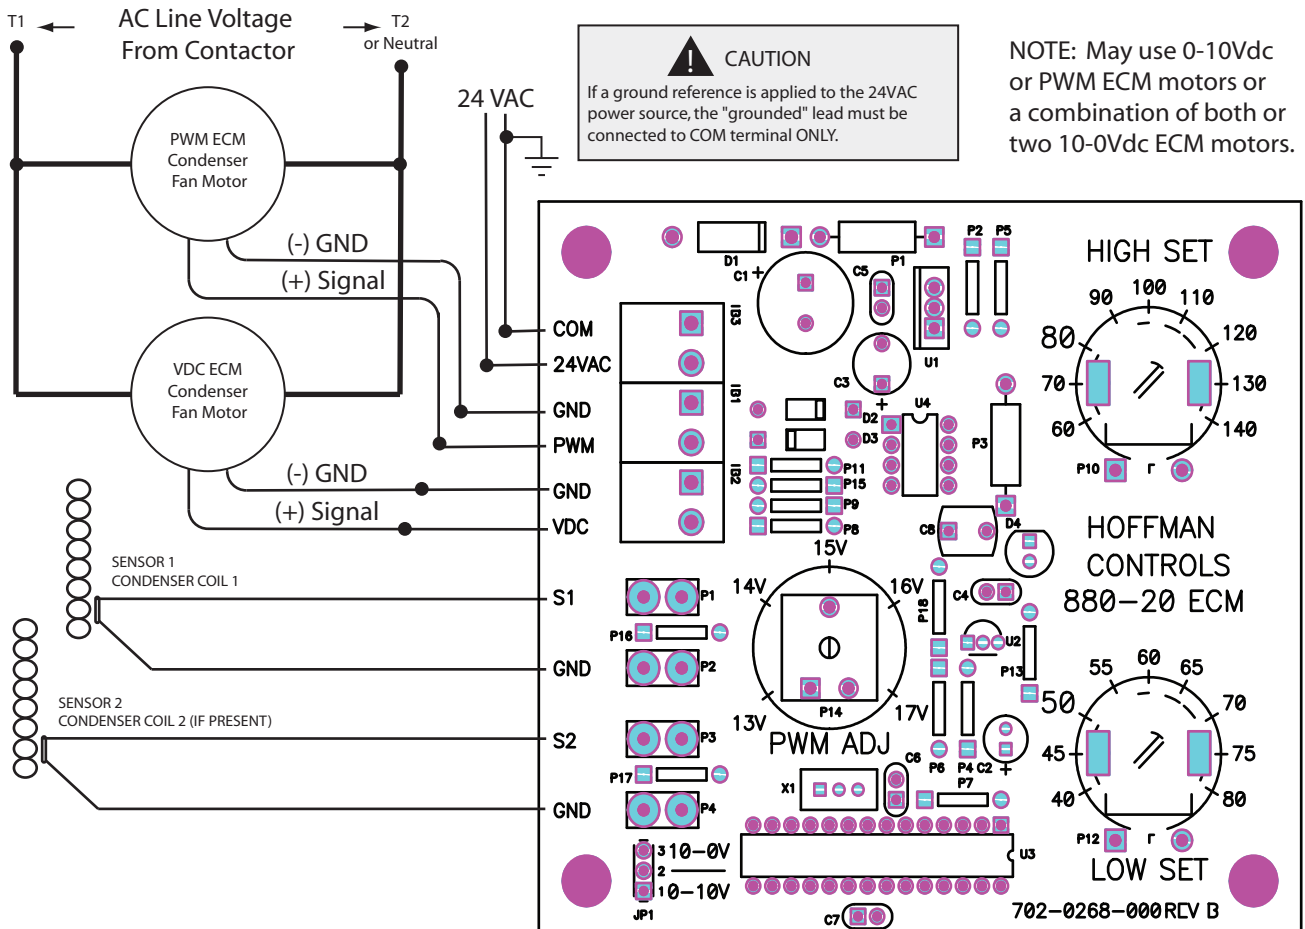

Figure 3 - Wiring Diagram for the 880-20 Control
- Make the wiring connections as shown in Figure 3, 880-20 Wiring Diagram.